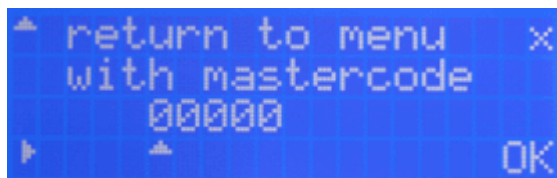

Figure 35: Mastercode entry
- The cursor is located in the first digit (see Figure 35). Press button 1 to increase the value by 1 per press. After 9 comes 0.
- Press button 4 (OK) to confirm the MASTERCODE and to return to the main menu PARAMETER.